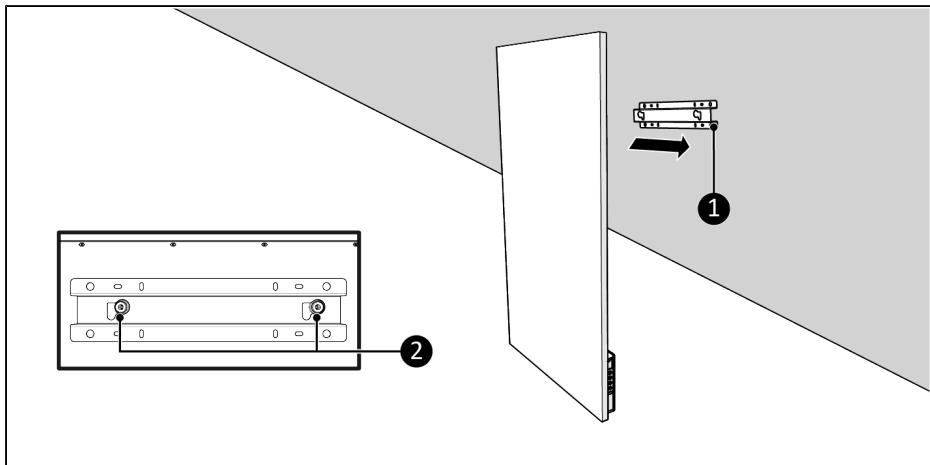

Figure 25.
1. Place the mounting bolts (Figure 25, pos. 2) over the wall bracket (Figure 25, pos. 1).